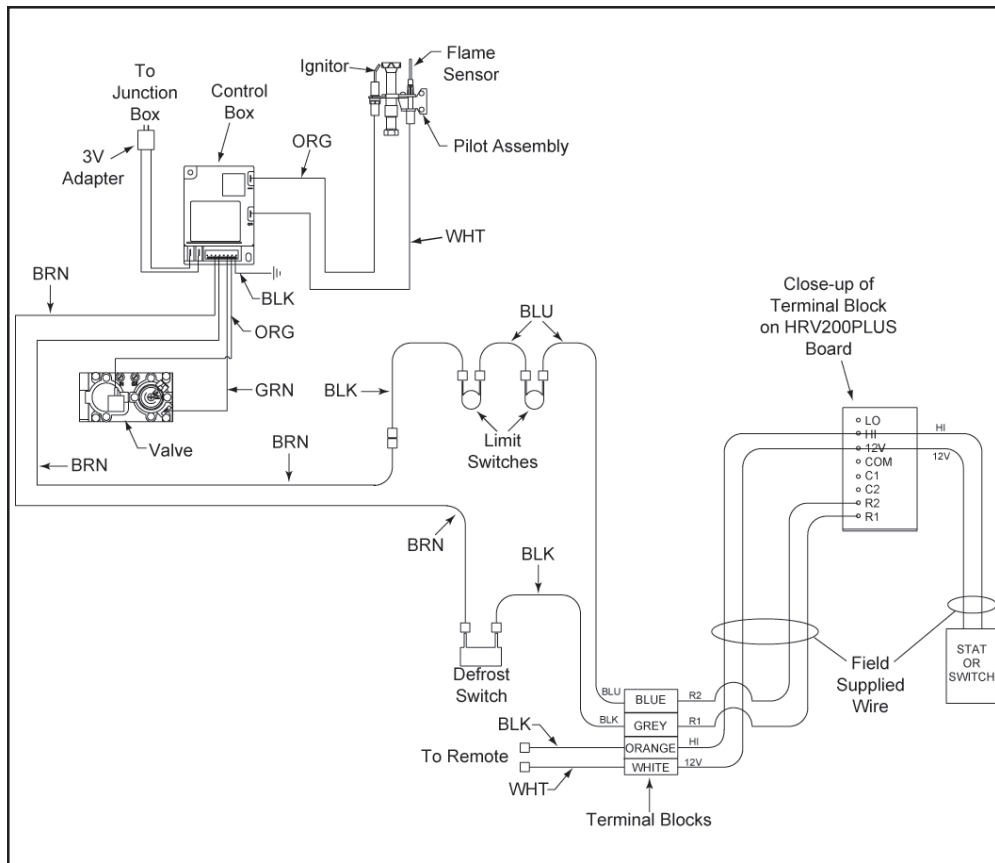

Figure 7 - Intermittent Pilot Ignition Wiring Diagram
- 1) This appliance requires a 110VAC supply to the appliance junction box for operation. A wiring diagram is shown in Figure 7.